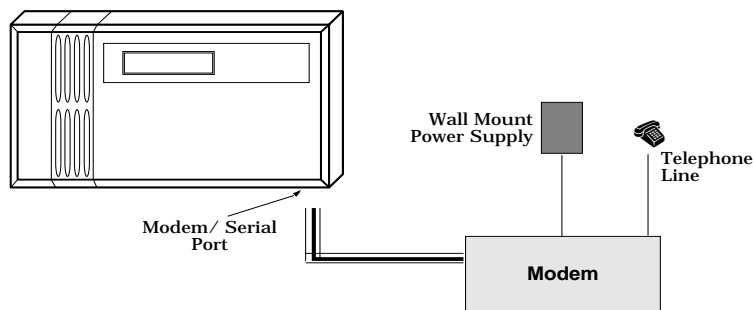

Figure 2.12 • Connecting a Modem
1. **Connect the Modem and the Octopus Unit**—First, plug your modem cable into the modem/serial port of the Octopus 3000 unit. Then connect the other end of the modem cable into the 25-pin connector on the back of the modem, as illustrated in Figure 2.12.
2. **Power up the Modem**—Aquadyne modems are powered by a small wall-mount transformer, as shown in Figure 2.12. Plug the end of the cable from the power transformer into the front of the modem. Then plug the modem wall transformer into a wall receptacle or, preferably, into a surge suppressor powerstrip.